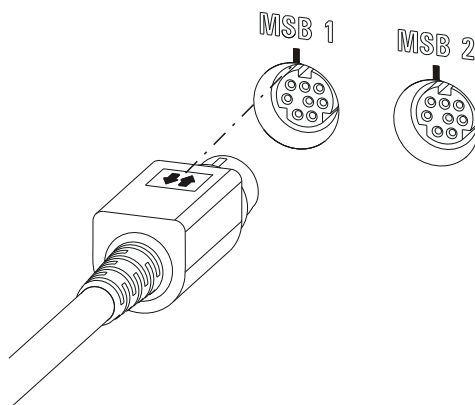

Figure 5 MSB connector
- When making the connection, take care to ensure that the flat part of the MSB plug marked with arrows is pointing in the direction of the marking on the MSB connector (*see figure 5, page 14*).